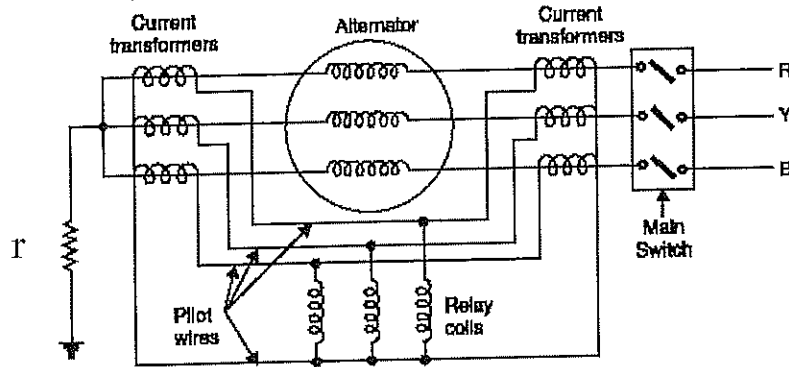

Fig. Q3(a)
- (a) A 50MVA, 66 kV, 3-phase star connected alternator is protected by Merz-Price circulating current system as shown in Fig. Q3(a). If the ratio of the current transformer is 2000/5, the minimum operating current for the relay is 0.85 A.